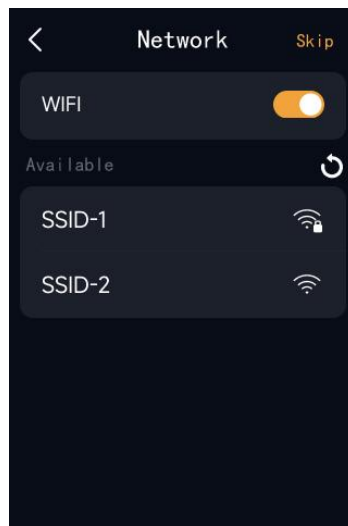

Fig. 3-2
- 2) Enter the network configuration (Figure 3-2), select the desired hotspot to connect to;